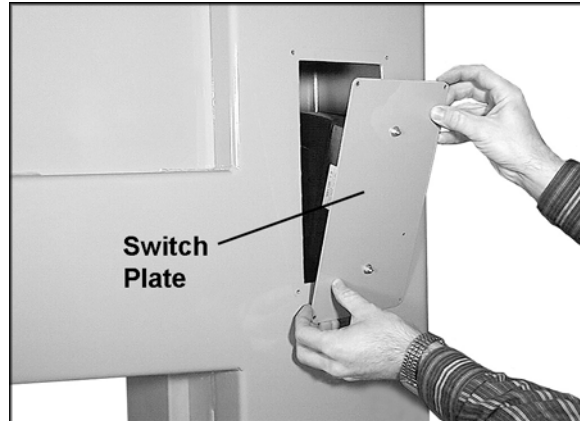

Figure 8
1. Remove the four Phillips head screws on the switch plate (Figure 8) and tilt the switch plate down. Then remove the hex nuts and washers from the two screws at the center, with an 8mm wrench. Pull the switch plate off the screws and away from the switch box. This will allow access to the switch box.